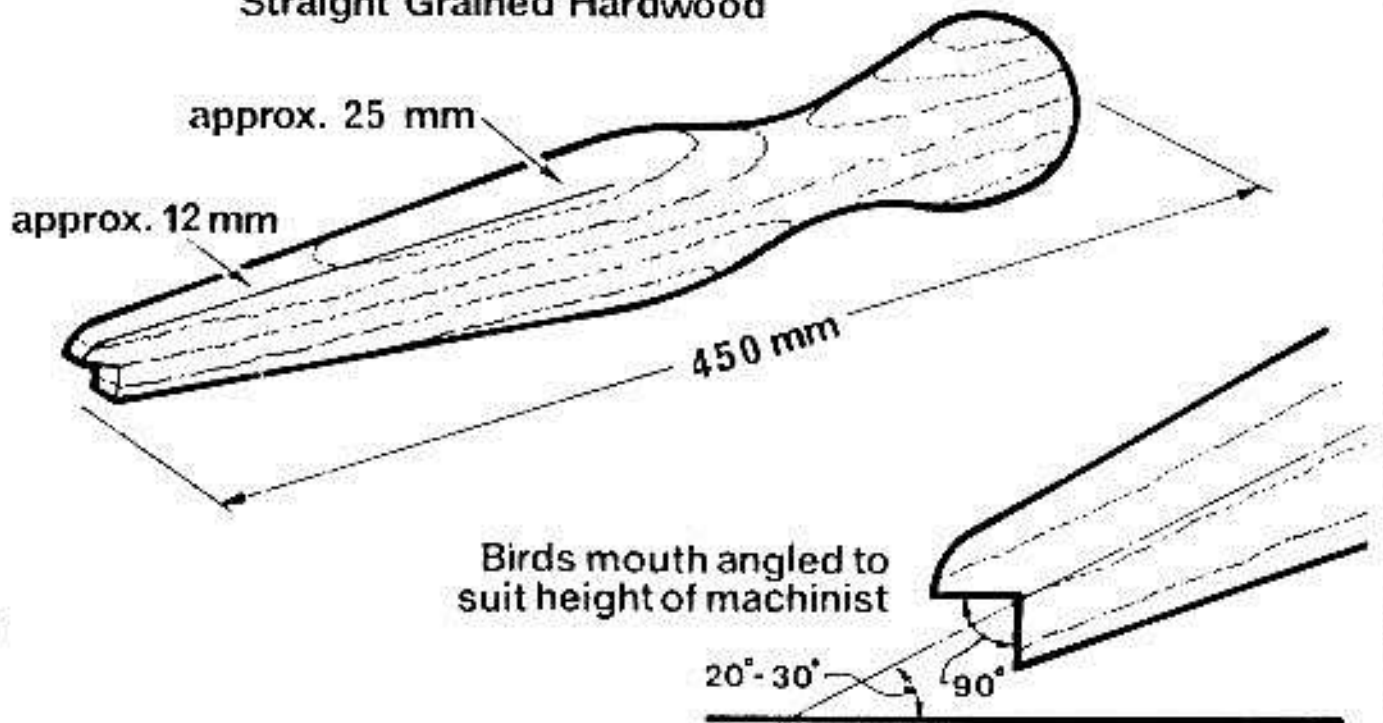

FIG.16
- c) Use a wood push stick FIG.16 (Refer to 2.1 and 2.2) as much as practicable when feeding timber to avoid accidents.